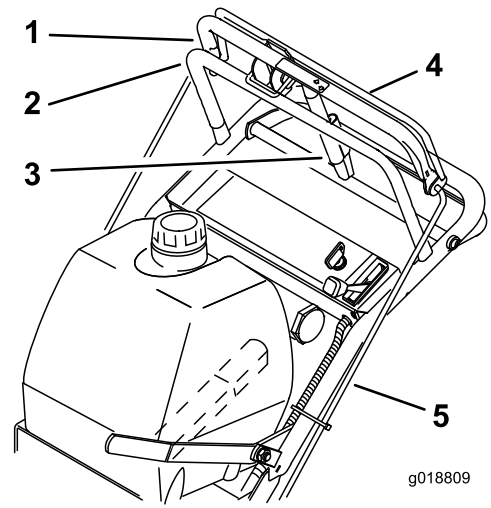

Figure 22
1. Check the gap between the upper control bar and the fixed bar with the wheel drive fully engaged. The gap will need to be approximately 25-32 mm (1 to 1-1/4 inches) (Figure 22).